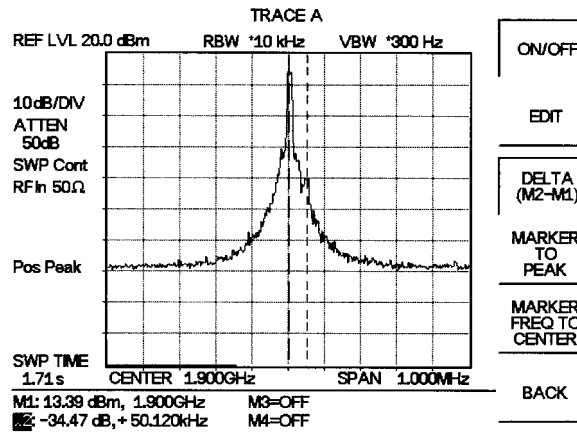

Figure 4-4. Measurement of Two Signals Having Unequal Amplitudes
Step 6. Change the frequency in the second source from 1900.100 MHz to 1900.050 MHz gradually and observe the effect. Figure 4-4 shows the results with the two signals spaced 50 kHz apart using a signal combiner/splitter with a loss of 6 dB.